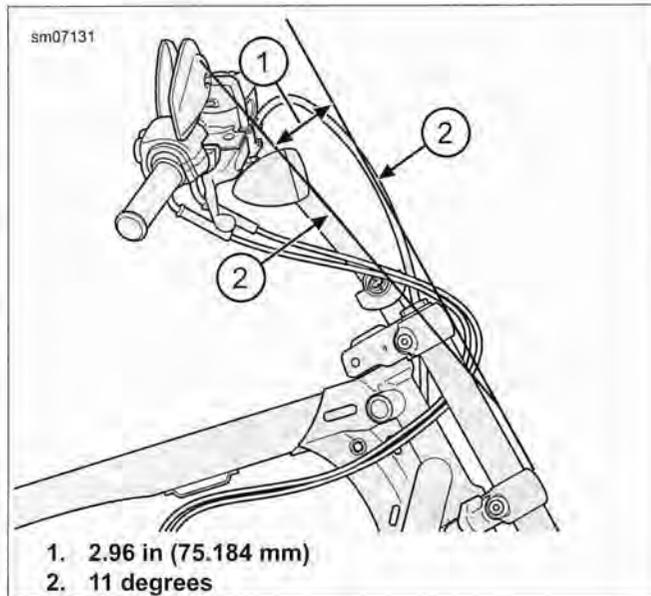

Figure 2-191. XL 1200CP Mini-Ape Handlebar Angle
See Figure 2-191. Rotate mini-ape handlebar 11 degrees (2) rearward of the fork angle or measure 2.96 in (75 mm) with a straight edge placed on the fork bracket back to the end of the straight (1) (beginning of the last bend). The angle positions the handgrips 15 in (381 mm) above seat height.